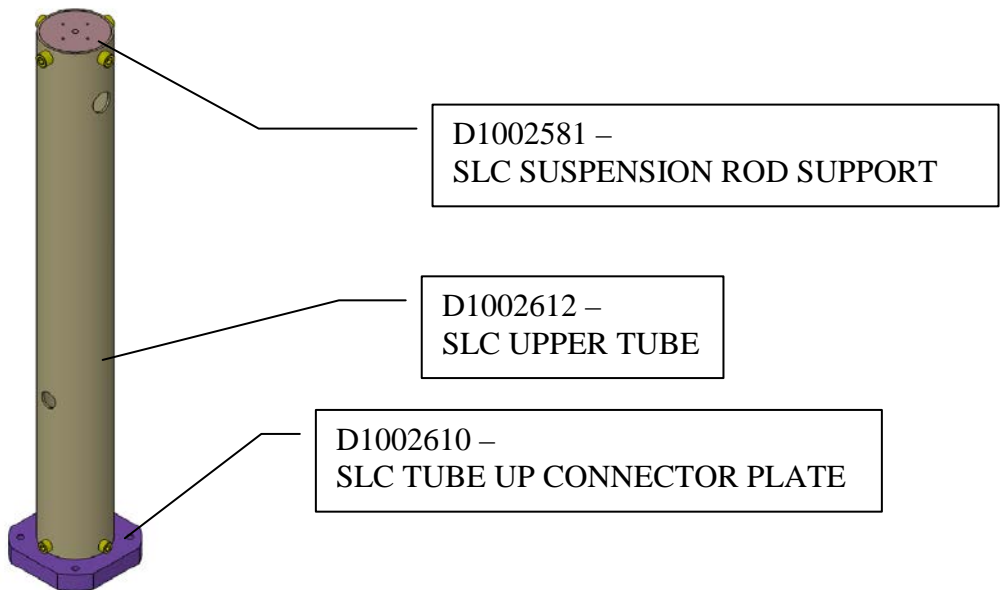

Figure 16: Baffle Tube Up Assembly
1. **Insert D1002581 – SLC SUSPENSION ROD SUPPORT into D1002612 – SLC UPPER TUBE on end closest to view holes, see Figure 16. Align with fastener holes. Parts may not slide together with ease.**
2. Insert D1002610 – SLC TUBE UP CONNECTOR PLATE into D1002612 – SLC UPPER TUBE on end furthest from view holes, see Figure 16: Baffle Tube Up Assembly. Align with fastener holes.